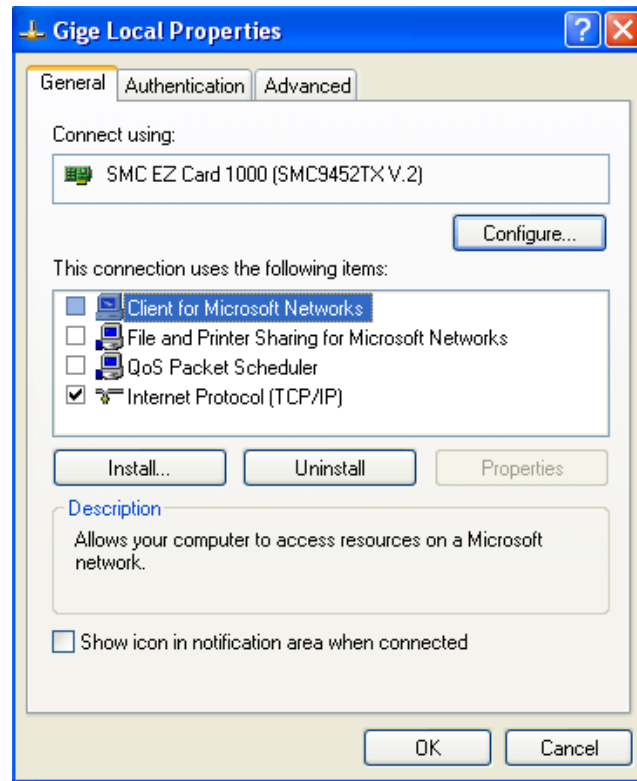

Figure 9. Network card main properties window.
- o Open the Network Connections Dialog as follows: From the Windows desktop select **start**, then select **Control Panel**, then double click on the **Network Connections** icon. Double click the relevant network card listed or right-click the relevant network card and select **Properties**. This will open the properties window for your network card. See Figure 9.
- o From the main properties dialog as in Figure 9, make sure that only the **Internet Protocol (TCP/IP)** check box is selected then click **OK**. The card is now optimized for use with the Prosilica camera.